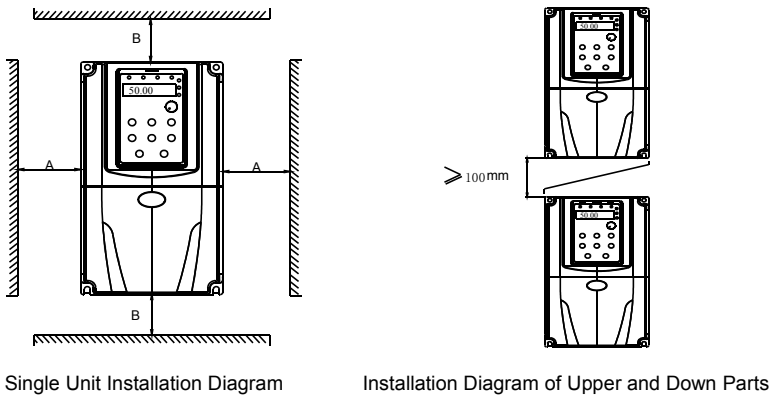

Figure 3-1 Installation Diagram
- 1) Install the inverter vertically so that the heat may be expelled from the top. However, the equipment cannot be installed upside down. If there are multiple inverters, parallel installation is a better choice. In applications where the upper and lower inverters need to be installed, please refer to Figure 3-1 "KE300A Series Inverter Installation Diagram" and install an insulating splitter.
- 2) The mounting space should be as indicated as Figure 3-1, so as to ensure the heat dissipation space of the inverter. However, the heat dissipation of other devices in the cabinet should also be taken into account.